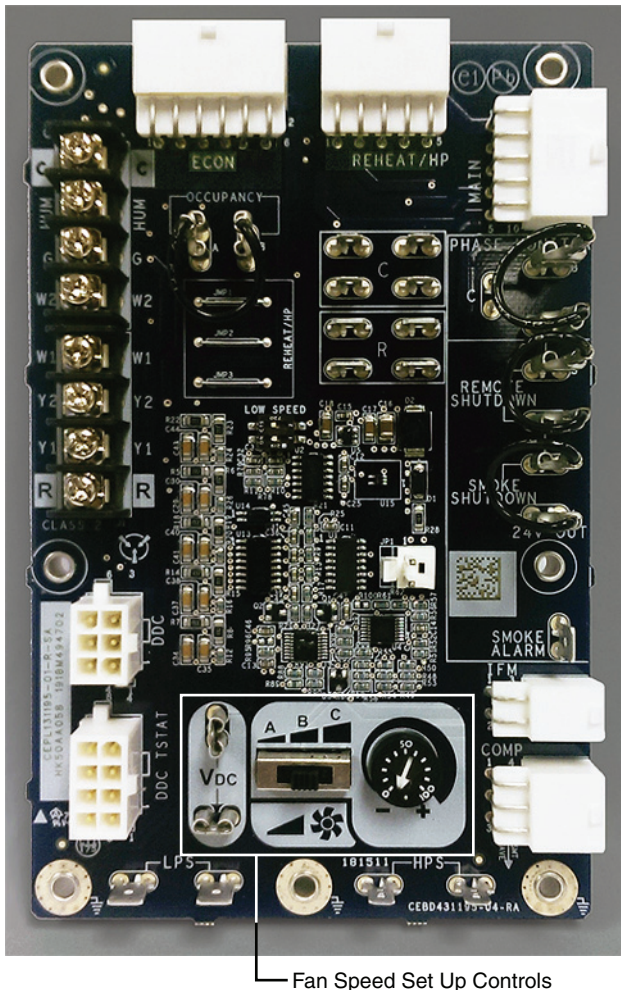

Fig. 7 — UCB Fan Speed Controls — 3-Phase Units
The Fan Speed set up controls are located on the lower section of the Unit Control Board (UCB). See Fig. 7 for location on 3-phase voltage units or Fig. 8 for location on single phase voltage units.
The 2-pin DIP switch is common to both the single and 3-phase unit control boards (see Fig. 7 and 8). When replacing UCB, the board will be shipped as default without a low speed selected. To select correct 582K low fan speed for 3 to 5 ton 582K units set both DIP switches to “OFF” (0). For 6 ton 582K units set both DIP switches “ON.” (1). See Table 1. The DIP switch positions can also be found on the unit’s control label diagram.